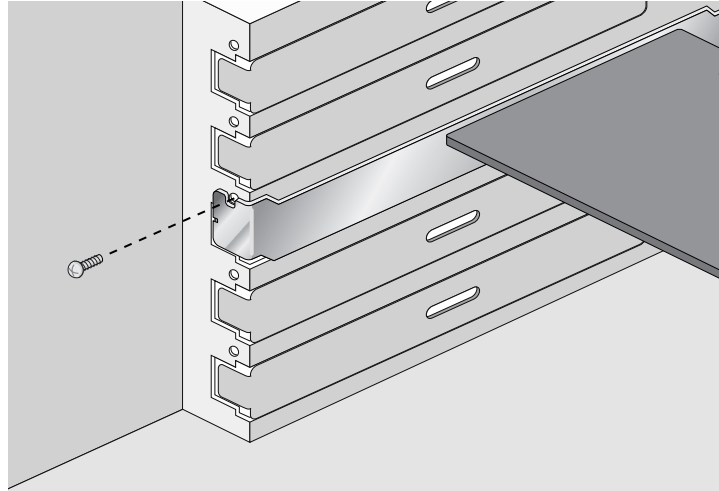

Figure 7. Securing the Adapter Card
6. Secure the network adapter card to the chassis with a Phillips-head screw (not provided) as shown in Figure 7.